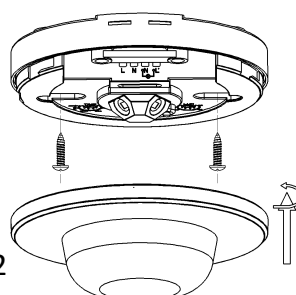

Figure 2
- Open the cover by turning it counterclockwise (Refer to figure 2);